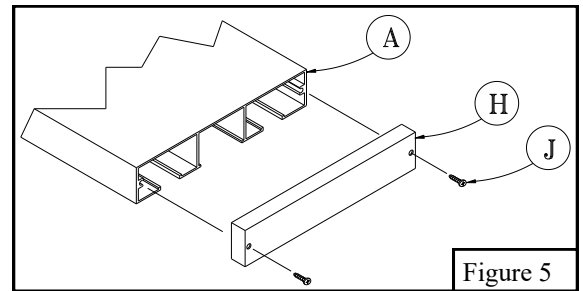

Figure 5
- Install *Seat End Caps* (H) using #10 X 3/4'' *Sheet Metal Screws* (J). See Figure 5.